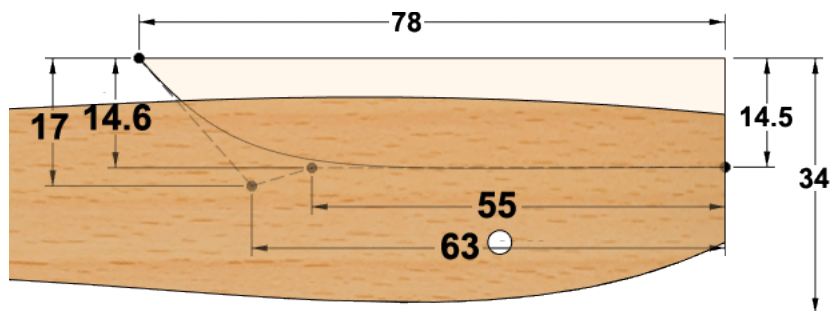

Fig. 29
Step 11. Click **Dimension**  (D) on the toolbar.
Step 12. Dimension spline, **Fig. 29**.